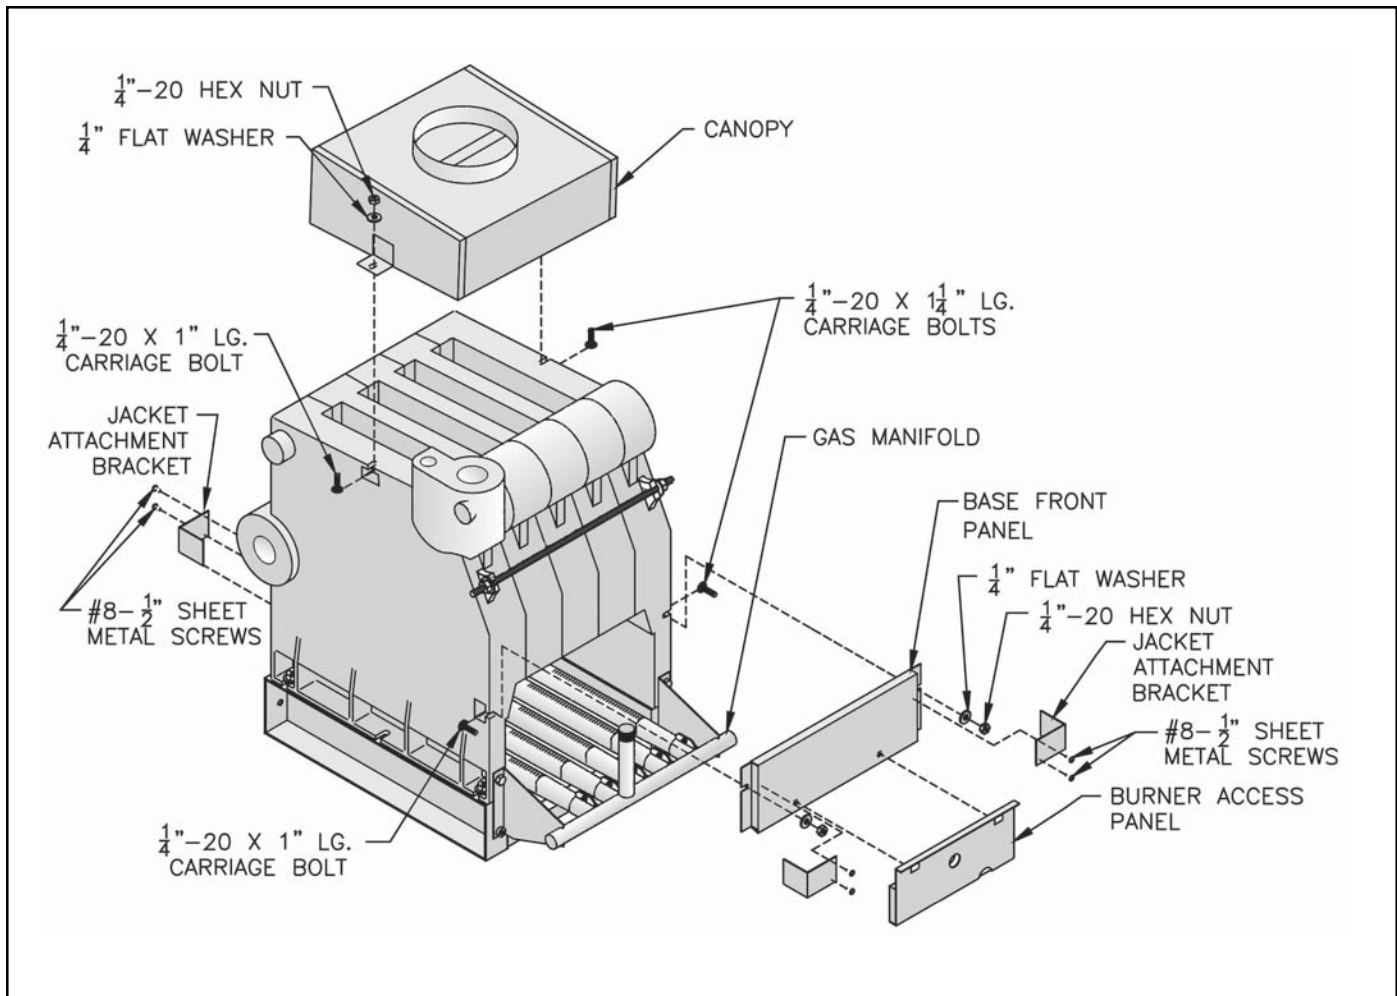
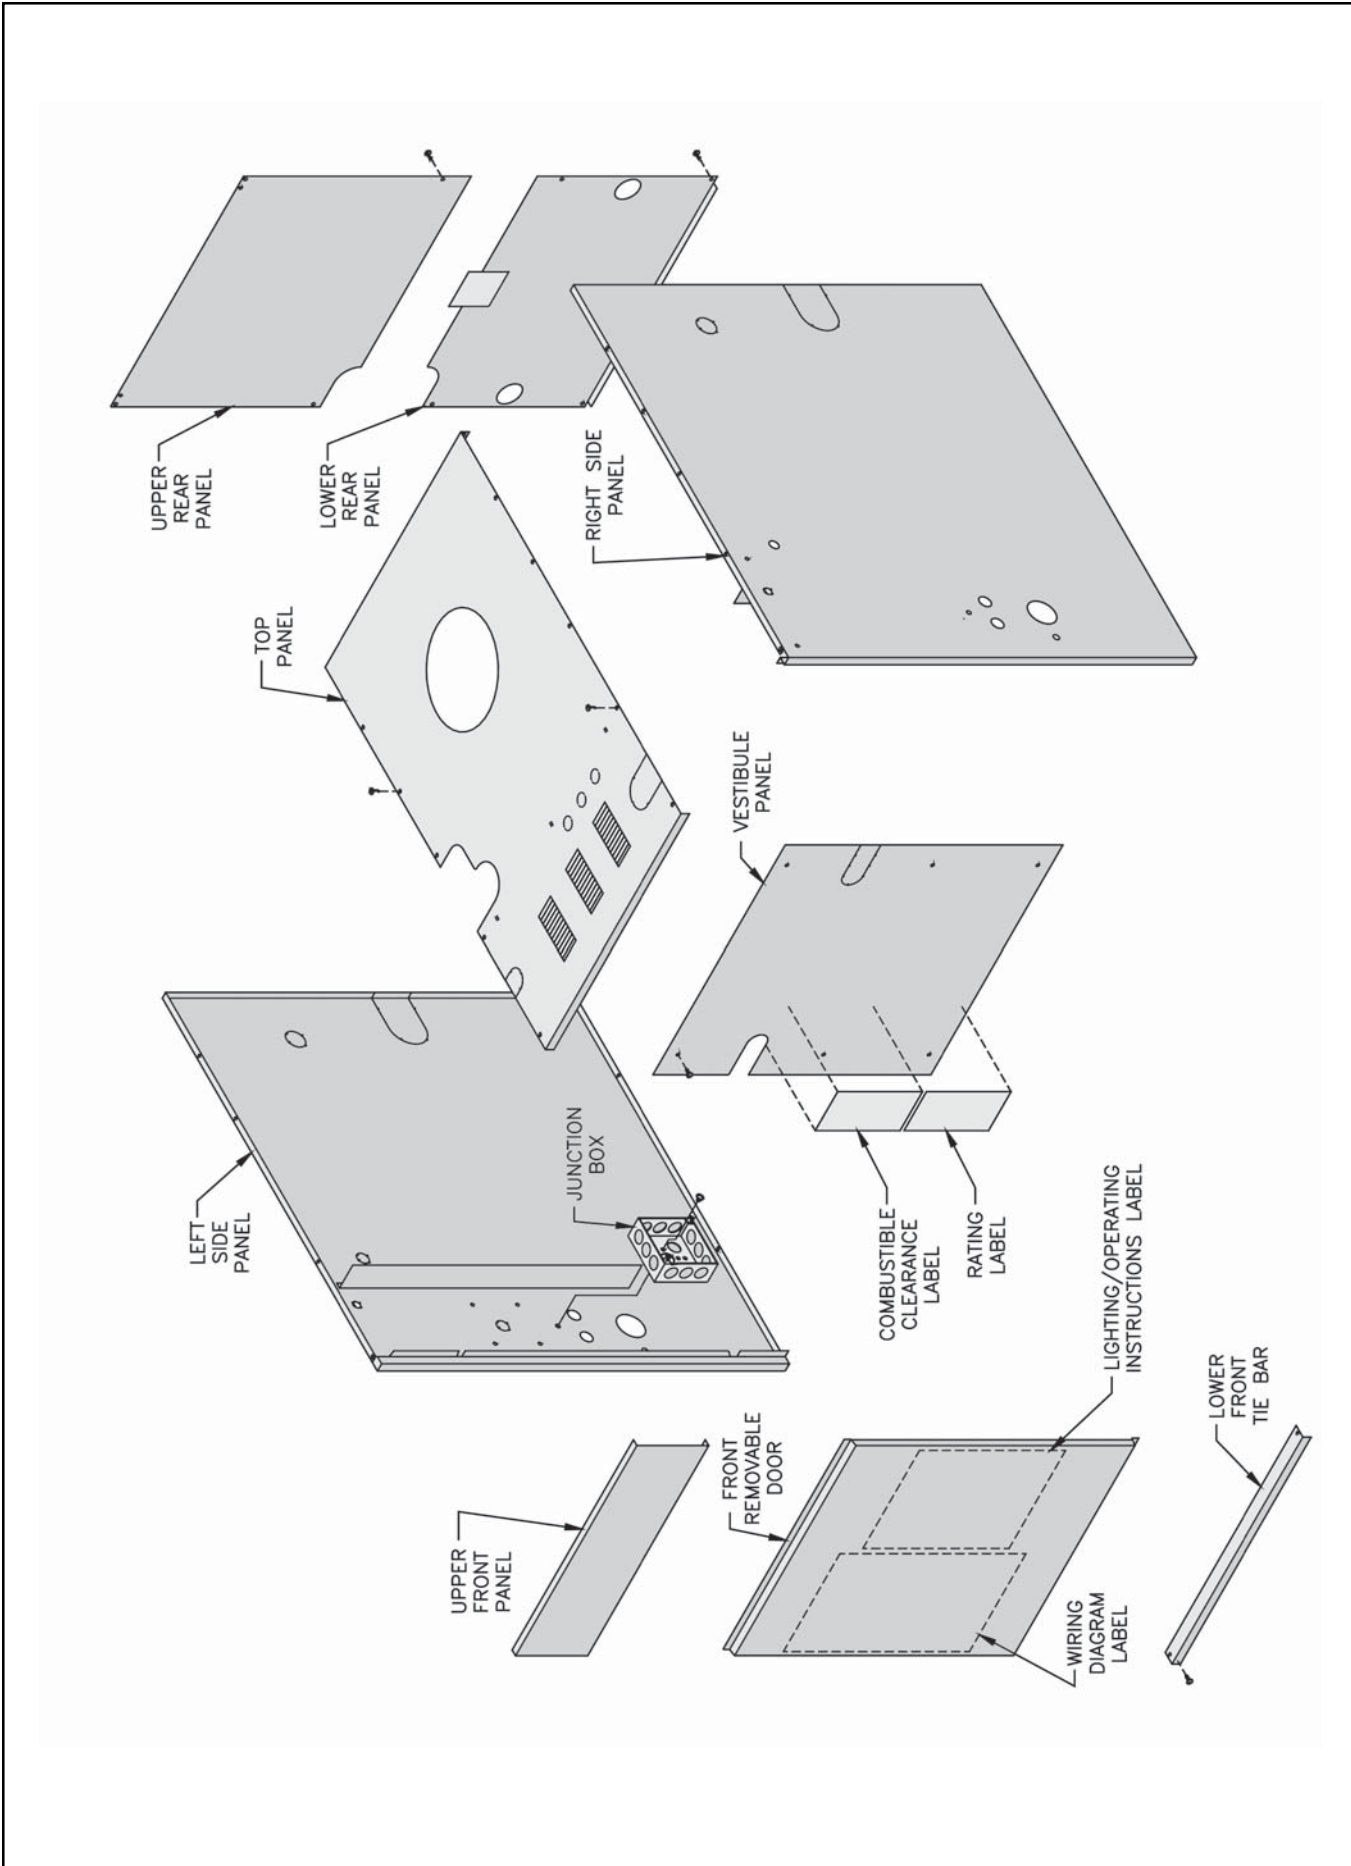

Figure 5: General Assembly (Knockdown Boilers)
Figure 8: Jacket Assembly
G. Install Canopy on section assembly. See Figure 5. Canopy and hardware are located in Combination Boiler Parts and Control Carton.
I. Install Base Front Panel. See Figure 5. Panel and hardware located in Combination Boiler Parts and Control Carton.
N. Install Jacket. See Figure 8.
1. Locate four (4) Jacket Attachment Brackets in Combination Boiler Parts and Control Carton. Attach to Front Base Panel and Rear Base Panels with #8 sheet metal screws. See Figure 5.
4. Attach Upper Rear Panel to Lower Rear Panel. Do not install three (3) upper screws.
O. Install Junction Box. See Figure 8. Attach junction box to inside of Left Side Panel with ¼" - 20 x ¼" lg. machine screw (located in Combination Boiler Parts and Control Carton).
- a. Attach Ignition Control Mounting Bracket to Jacket Vestibule Panel using two (2) #8 x 1/2" sheet metal screws.
- b. Attach Johnson Ignition Module to Mounting Bracket using two (2) #6 x 3/4" sheet metal screws or attach Honeywell Ignition Module to Mounting Bracket using two (2) #8 x 1/2" sheet metal screws.
4. Mount Transformer (continuous circulation) or Control Center (intermittent circulation) to Junction Box. See Figure 8.